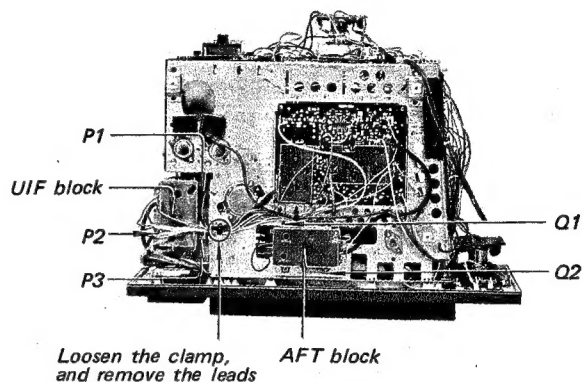

Fig. 2-17.
1. Remove the three screws labeled P1 ~ P3 in Fig. 2-17.
2. Loosen the lead clamp, and remove the leads. See Fig. 2-17.
1. Remove the two screws labeled Q1 ~ Q2 in Fig. 2-17.